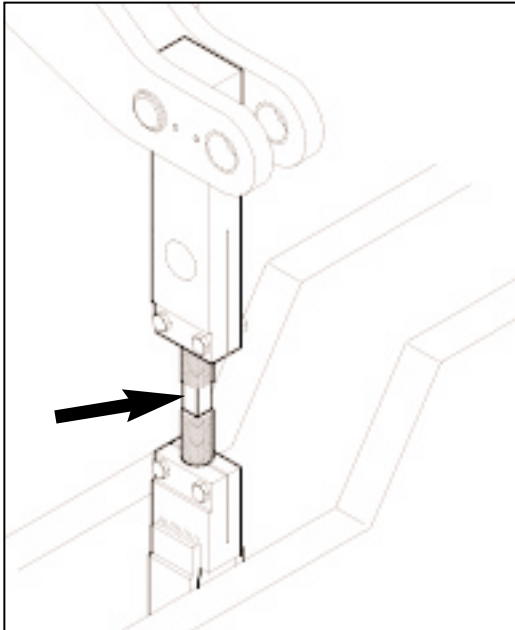
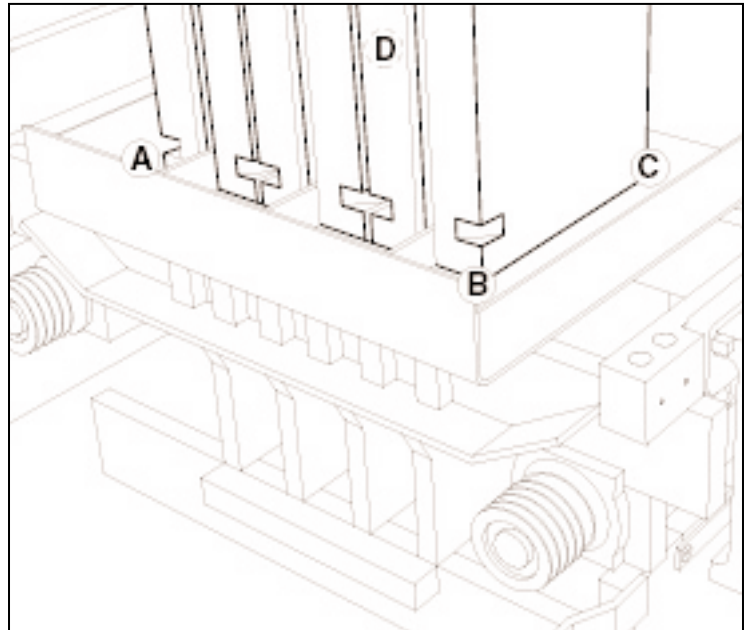
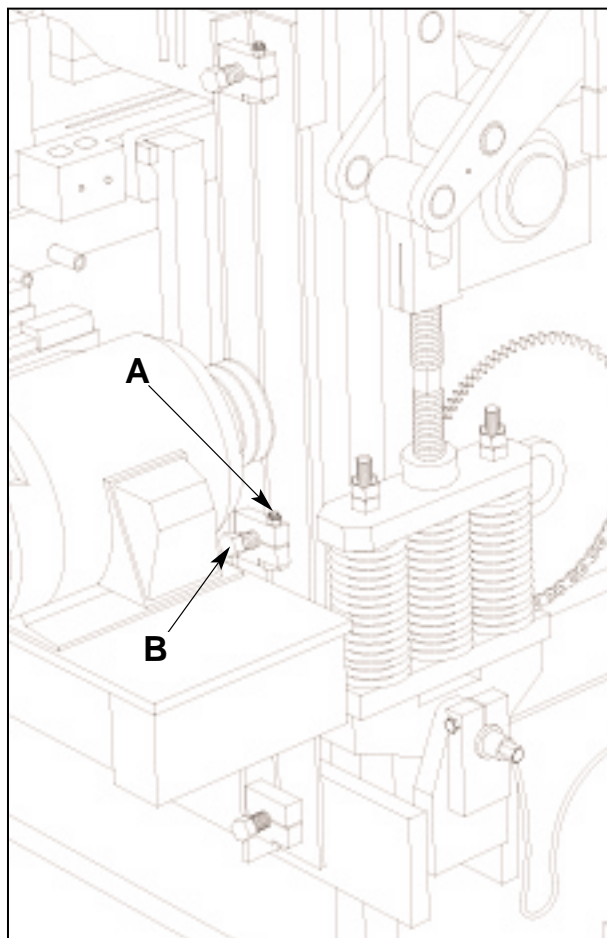

Figure 5.29 L.H. STRIPPER HEAD LINK.
Figure 5.30 STRIPPER SHOES POSITION.
Figure 5.31 GUIDE LINER ADJUSTMENT SCREW.
- 5.8.2 To determine if the head is level with mold (left to right and front to back), measure how far the top of the stripper shoes are above the mold end liners at all 4 corners (A, B, C and D) (see figures 5.30 & 5.30b).
- 5.8.3 If the head is not levelled side to side (A to B) (see figure 5.30), adjust the left hand stripper head adjusting link (see figure 5.29).
- 5.8.4 If the stripper head is not level (B to C) (see figure 5.30) with the mold from front to back, back out both lower guide liner adjusting screws on the stripper head frame at the slide shaft on the lower right hand side of machine (see figure 5.31). Loosen nut (A) and adjust with bolt (B).
- 5.8.5 After head is level with mold, tighten both adjustment screws against the slide shaft on the left hand side (see figure 5.31). Then loosen the front adjustment screws 1/4 of a turn and tighten clamp bolts.